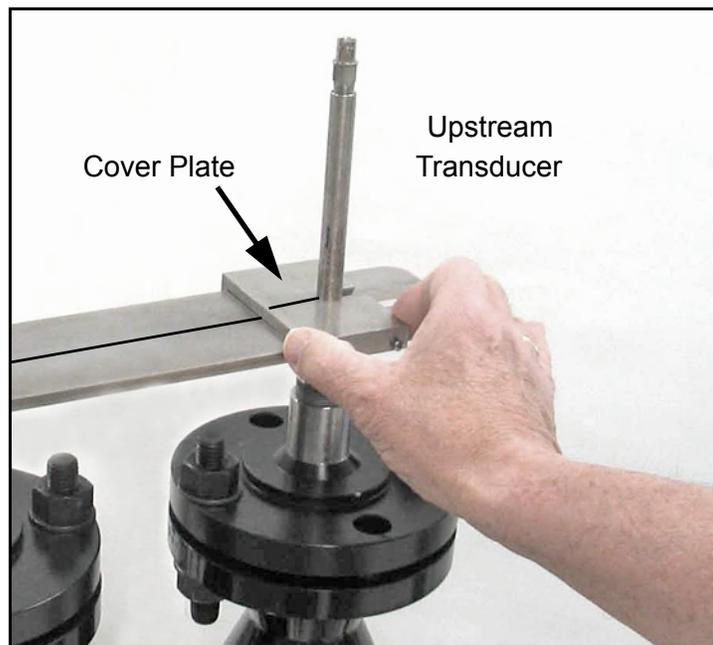

Figure 10: Installing the Cover Plate
3. Place the cover plate on top of the guide plate and slide it as far as possible until it is positioned around the upstream transducer, as shown in *Figure 10* below. Then, tighten the screws to secure it.